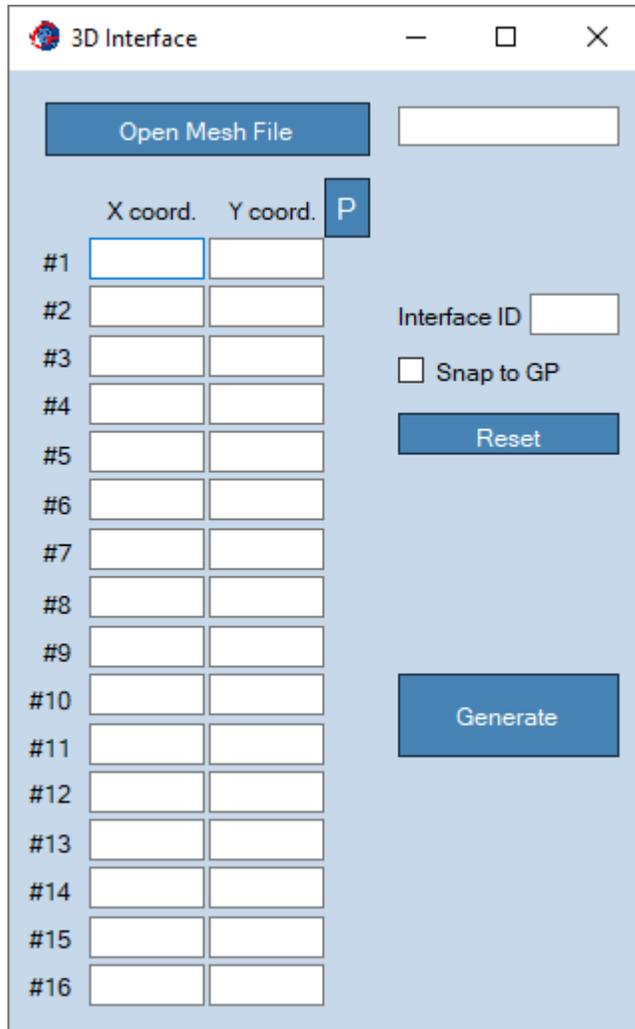

Figure 30: 3D Surfaces Menu – Interface Mesh
- **Meshing Menu, Interface Mesh:** This menu option (shown in Figure 30) produces a code for creating interfaces over an irregular surface created with *Geo Meshing v3.2*. This option does not require the execution of *3D Meshing* after generation.